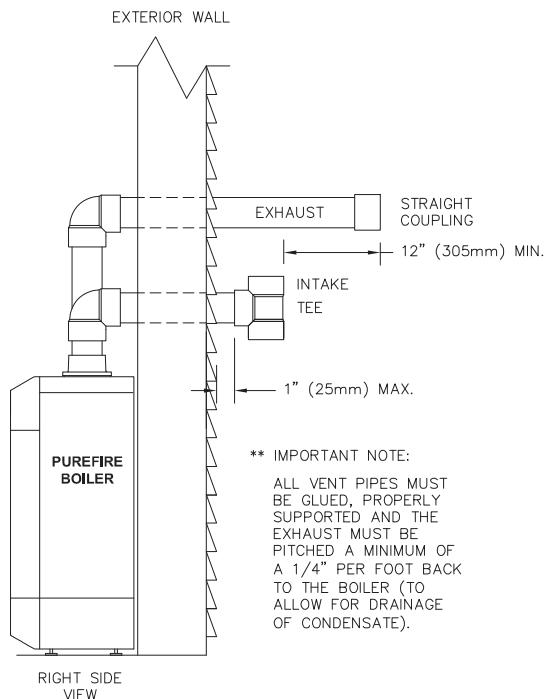

Figure 3.3: Standard Exhaust & Air Inlet Pipe Terminations
- b. Figures 3.3 through 3.6 show approved sidewall venting configurations using the standard fittings supplied.